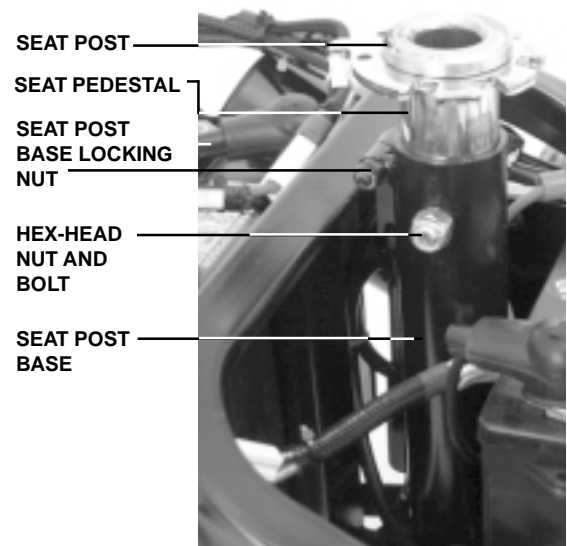

Figure 14. Seat Height Adjustment
2. Use a 14-mm spanner to loosen and remove the hex-head nut and bolt. See figure 14.